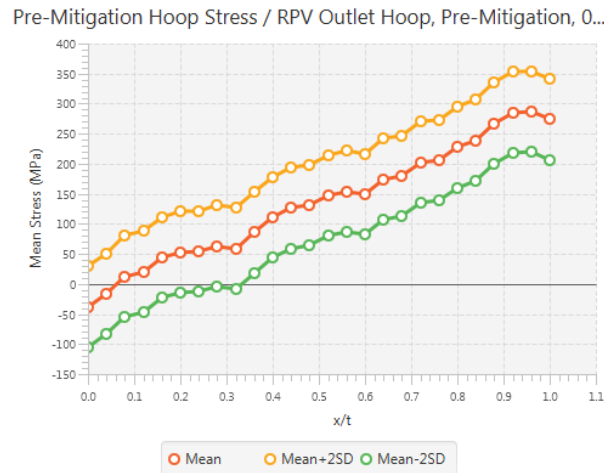

Figure 10. Example plot of mean WRS curve, mean plus two standard deviations, and mean minus two standard deviations.
- Special feature: WRS profiles may be plotted using the *View Plot* buttons in this panel. An example is shown in Figure 10.